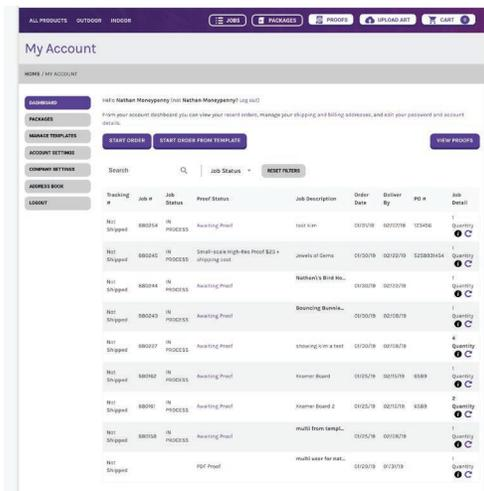

Fig. 3
- Once logged in, the **Dashboard** page will be shown. This page shows the status of your orders, and has buttons to let you view your proofs or place a new order. (**Dashboard** is the default view, if you would like to change what page loads when logged in, it can be changed on the **Account Settings** page.) (see Fig. 3)